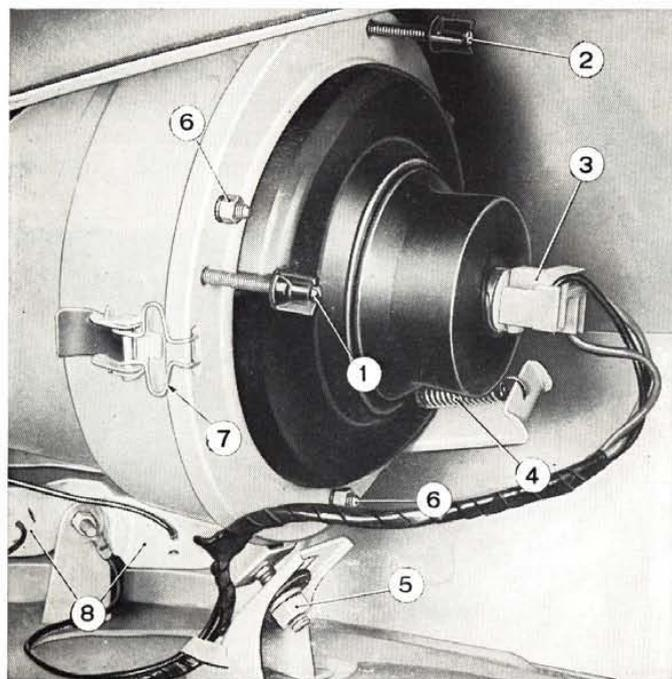

Fig. 494 - Interior view of right side headlamp.
— back out headlamp mounting nut (5, fig. 494) from body;
To aim headlights, switch on the low beam and work on the screw (2, fig. 494) for vertical adjustments, and on the screw (1) for horizontal adjustments, until the following conditions are obtained: